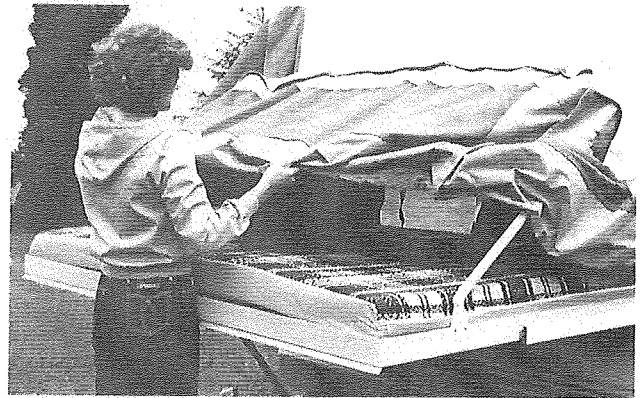

FIG. 18 - Canvas Support Bow Set-Up
19. With both beds fully extended and supported, grasp the bottom edge of either the front or rear canvas (Evolution 3® on Williamsburg) with hands approximately 2½ feet apart and gently pull until the canvas is supported as pictured below. (See Figs. 18, 19 & 20)